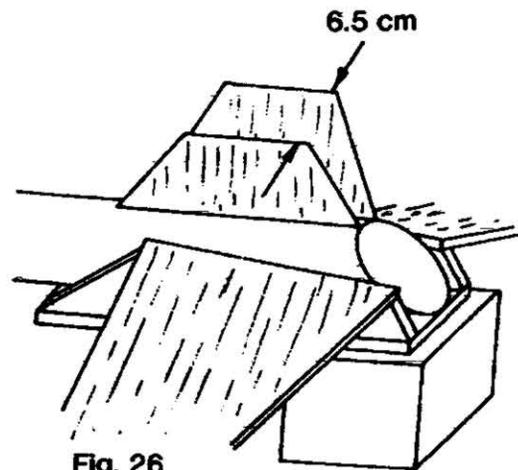

Fig. 26
**H** Glue the two Strike Vehicle Rear Stabilizers in place, along the alignment marks made earlier (see Fig. 26). The tips of the Rear Stabilizers should have a spread of about 6.5 cm.